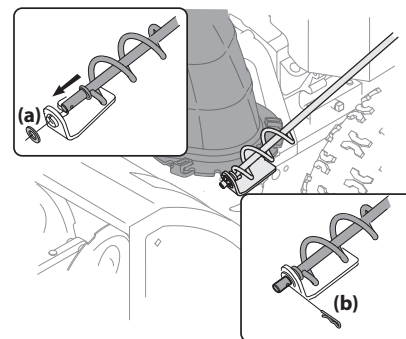

Figure 2-13
1. Remove plastic cap (if present), flat washer (a) and hairpin clip (b) from end of chute directional control assembly. See Figure 2-13.